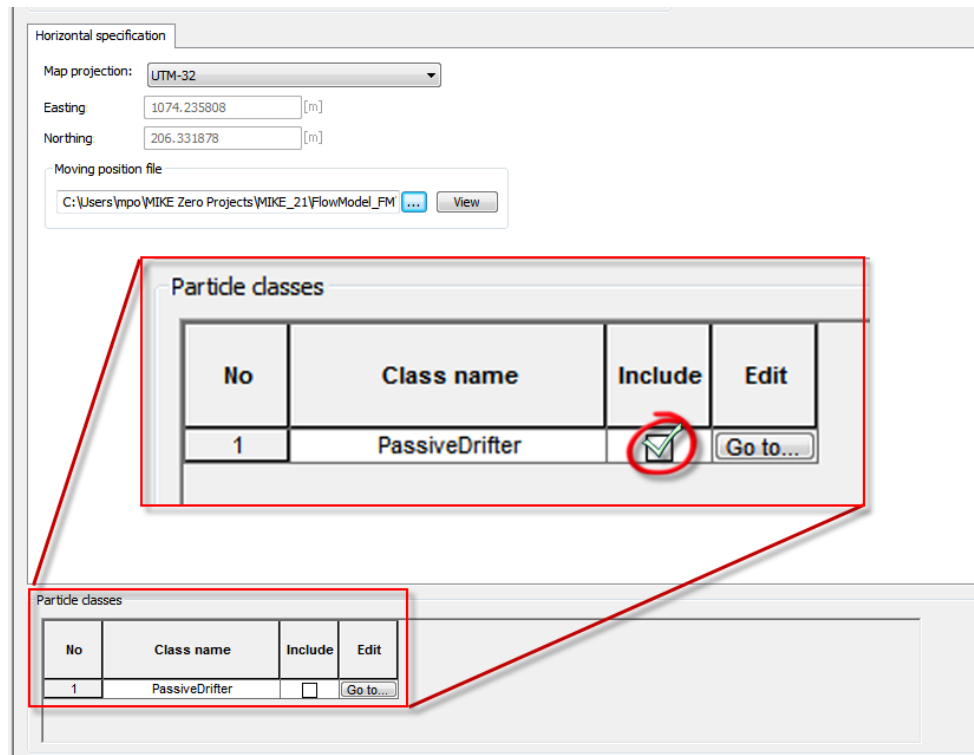

Figure 2.17 Do not forget to enable/include the particle class in source definition!
**Do not forget** to enable/include the particle class in the source definition on the bottom of the dialogue (Figure 2.17).